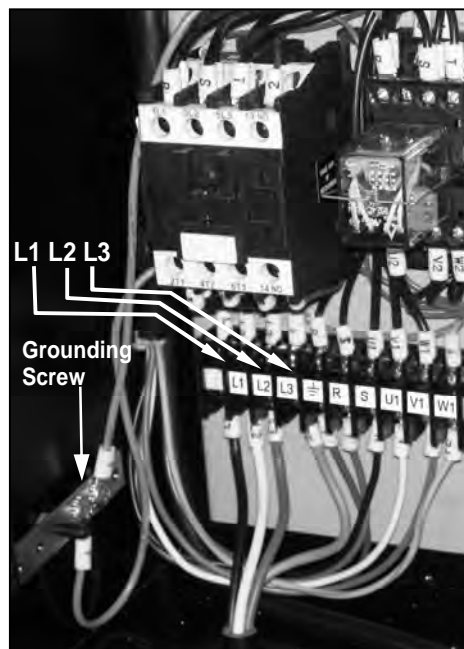

Figure 3a
1. Bring the lead wires through the hole in the side of the control box and connect as follows (refer to Figure 3a):